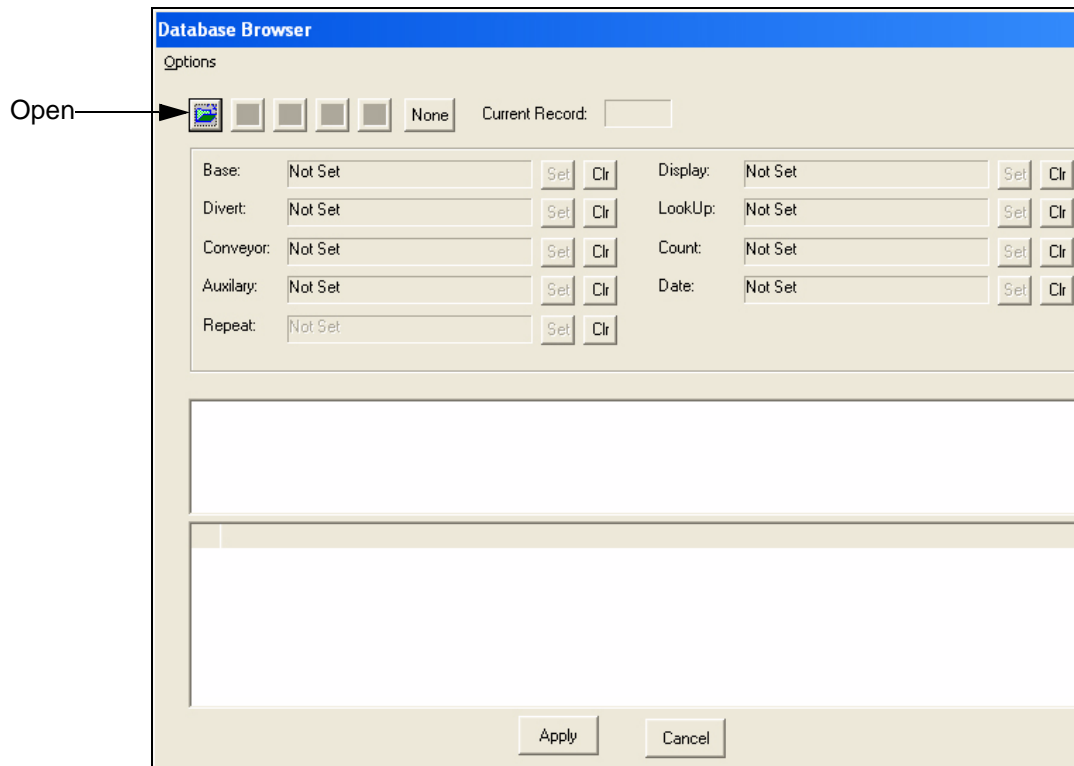
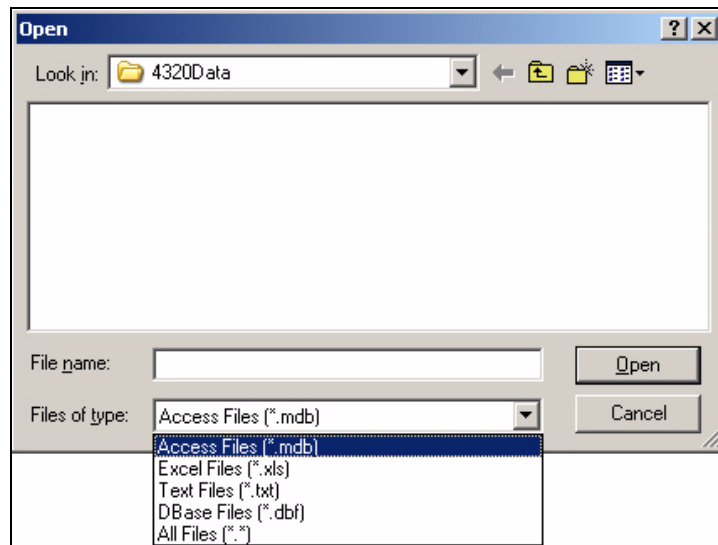
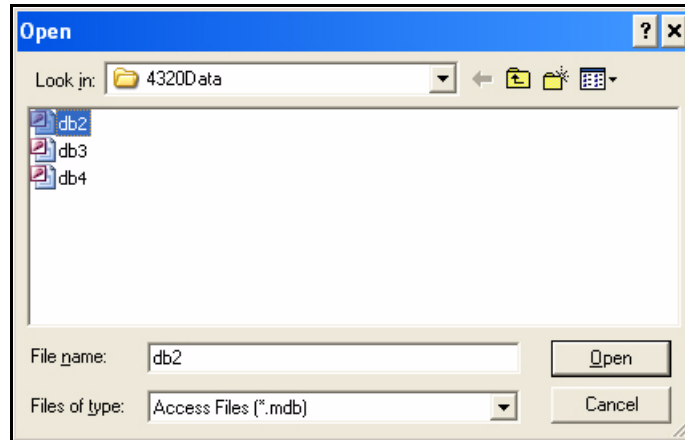

Figure 4-7: Database Browser
Figure 4-8: Database Browser Setup
Figure 4-9: File Selection
- 1 Click on the *Datafile Browser*  icon from the toolbar and the *Database Browser* screen appears (see Figure 4-7 on page 4-7).
- 2 Click on the *Open*  icon on the toolbar (see Figure 4-7). The *Open* dialog box appears (see Figure 4-8).
- 3 Select the file type from the *Files of type* list (see Figure 4-8). The related data files appear (Figure 4-9).